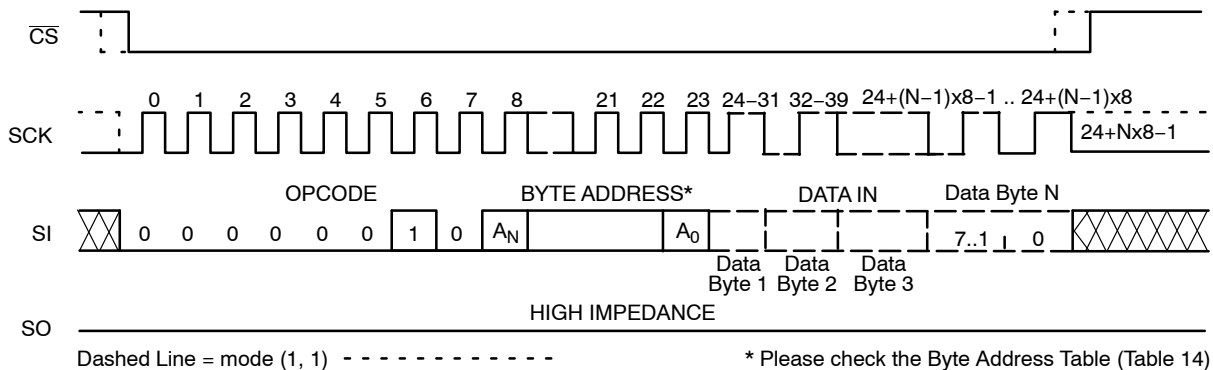

Figure 6. Page WRITE Timing
After sending the first data byte to the CAT25128, the host may continue sending data, up to a total of 64 bytes, according to timing shown in Figure 6. After each data byte, the lower order address bits are automatically incremented, while the higher order address bits (page address) remain unchanged. If during this process the end of page is exceeded, then loading will "roll over" to the first byte in the page, thus possibly overwriting previously loaded data.
The additional 64-byte Identification Page (IP) can be written with user data using the same Write commands sequence as used for Page Write to the main memory array (Figure 6). **The IPL bit from the Status Register must be set (IPL = 1) using the WRSR instruction, before attempting to write to the IP.**